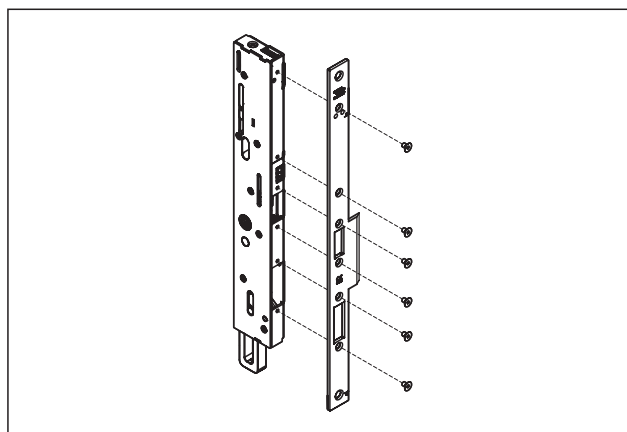

Fig. 31 Screw on forend
2. If necessary, screw the forend to the lock with 1.5 Nm (Fig. 31).